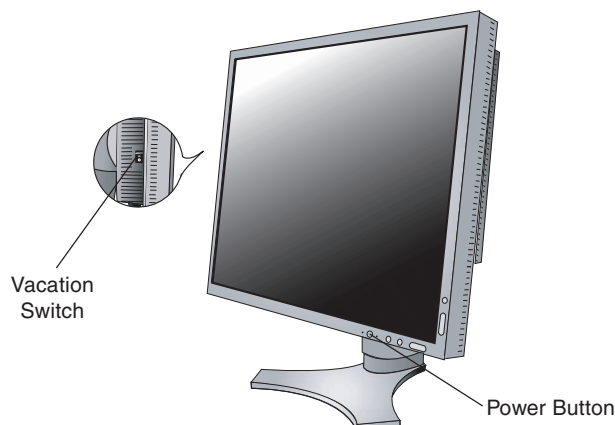

Figure E.1
9. The Vacation Switch on the left side of the monitor must be turned on. Turn on the monitor with the front power button (**Figure E.1**) and the computer.